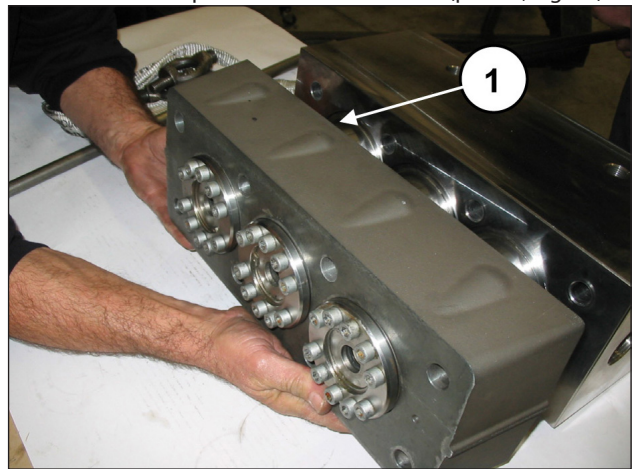

Fig. 98
Remove the liner spacer from the liner units (pos. ①, Fig. 98).